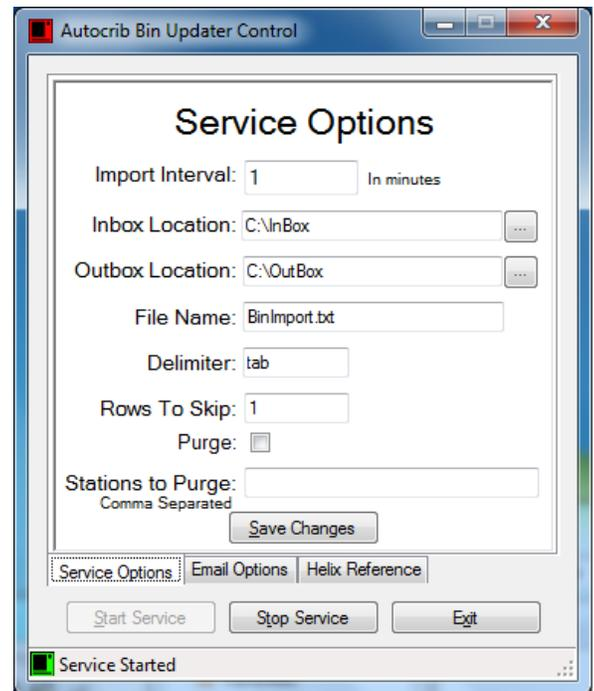

Fig 1
- Before clicking the “**Start Service**” button to enable the service It is required to input all the fields to the right Fig1 and described in detail below: